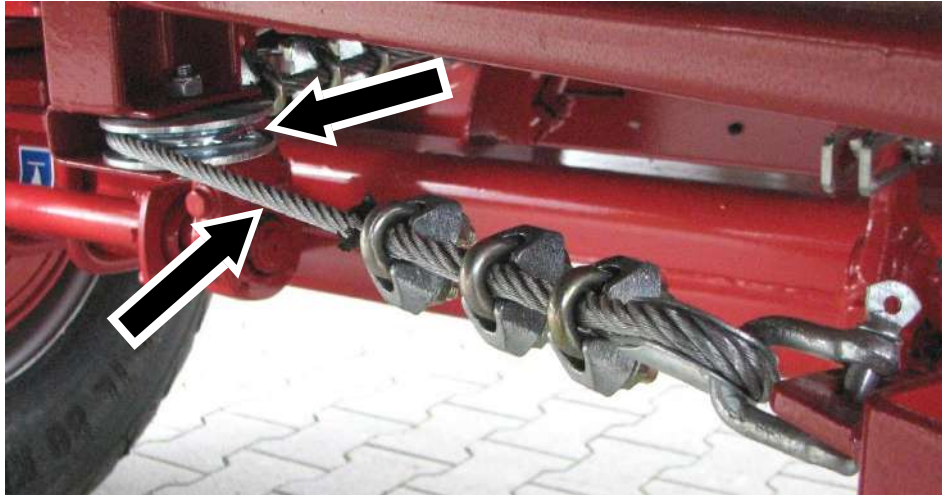

Figure 41: Lubricating the pulley and brake cable
- ⇒ Lubricate the brake cable and pulley with a brush (see Figure 41).